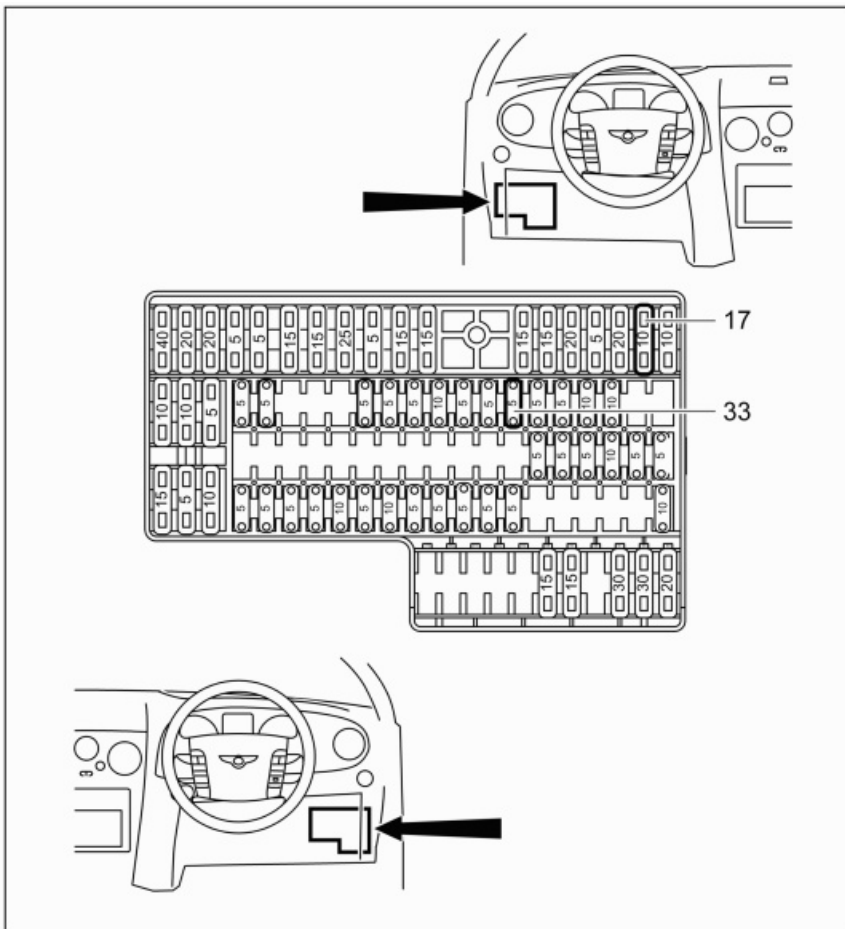

Figure 2
- c. Remove fuse 17 (10A) and fuse 33 (5A) from the drivers facia fusebox. (see Figure 2) Once the fuses are removed they can then be replaced